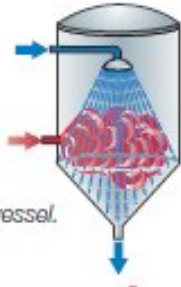

Fig. 9.11
- Steam infusion systems (product introduced into a steam-filled vessel), Figure 9.11